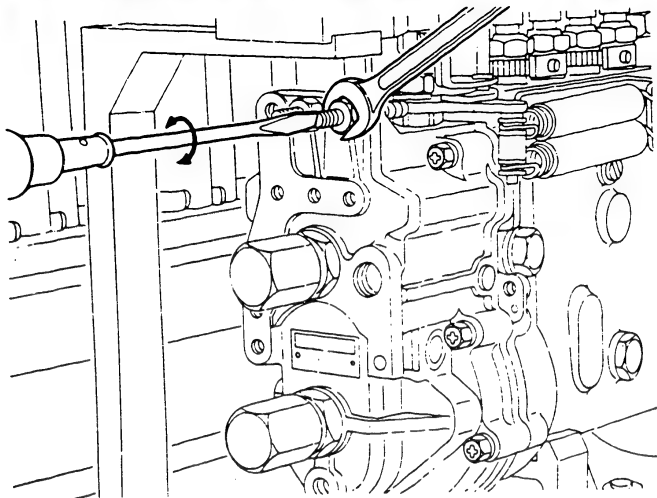

Fig. 150 Adjustment of the maximum-speed setting bolt
2. Adjust the maximum-speed setting bolt so that the control rack begins moving toward the fuel decrease direction at a pump speed of N_g rpm. Then, lock the maximum-speed setting bolt with the nut. (Figs. 150 and 152)